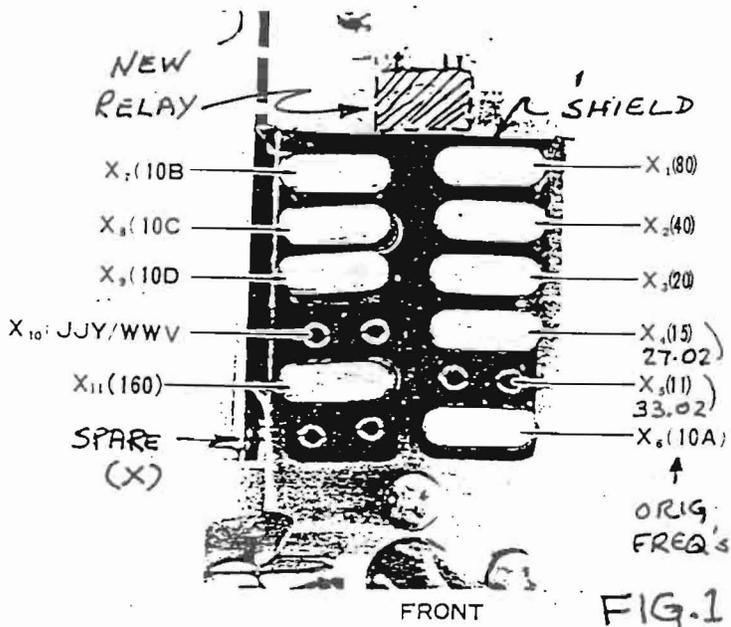
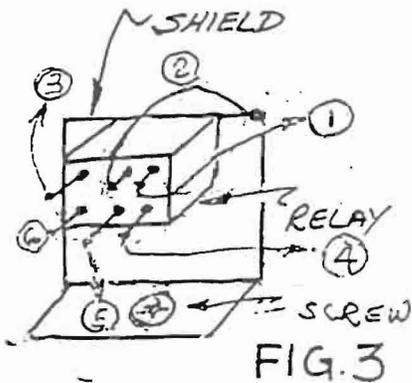

FIG. 1
FIG. 3
- ( ) 3. See Fig. 1. Locate the bank of crystals on the right side of the top chassis, behind the front panel.
- ( ) 5. Look again at Fig. 1. Temporarily remove the existing 15-meter (X4) (27.02 MHz) crystal and replace it with the new 18-meter (24.02 MHz) crystal. This is a test only and the 27.02 MHz crystal will be used later for 15 meters. Mark the crystal for later identification.
- ( ) 12. Solder a 3" insulated lead to the hot side of the spare (X) (front left) socket. If the spare socket is already in use, wire in a new socket and solder the 3" lead to it instead. Solder a 3" insulated lead to the hot side of the 15-meter (X4) socket. Dress all three leads backward under the rear of the socket board so that the three wire ends will stick out of one side of the back support. Remount the socket board, using the original screws, spacers and rear shield.
- ( ) 13. Look at Figures 1 and 3. Solder a short bare wire to the upper right corner of the crystal socket shield (looking toward the front of the set). Look again at Figure 3.
- ( ) 15. Look at Figure 3. Cut, strip and tin the three wires coming from the crystal sockets:
If the pin-out of the relay differs from Figure 3, connect as shown in Figure 4.
6. Some "economy" versions of the FT-101, such as the FT-101-EE or FE, did not include a full complement of crystals, as indicated in Figure 1. International Radio does not supply crystals, and we refer you to Jan Crystals in Fort Myers, Florida: 1-800-JAN-XTAL